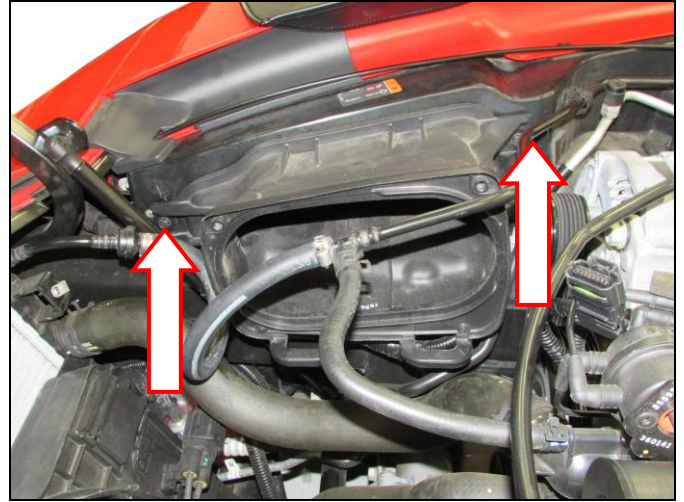

Figure 4
- Next remove the (x2) bolts securing the factory airbox. Pull the airbox out and remove from vehicle (**Figure 4**).